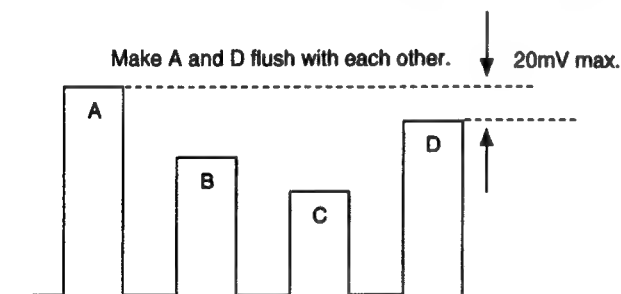

Fig. 5-23
- 2) Adjust **[CHROMA NTSC 443 ACC OFF]** in the same way as 10-9-4). (Fig.5-23)